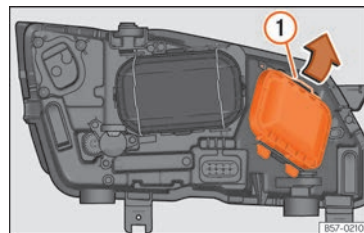

Fig. 110 In the engine compartment: remove the lid.
2. Move the loop » **Fig. 110** ① in the direction of the arrow and remove the cover.
2. Move the loop » **Fig. 110 ①** in the direction of the arrow and remove the cover.